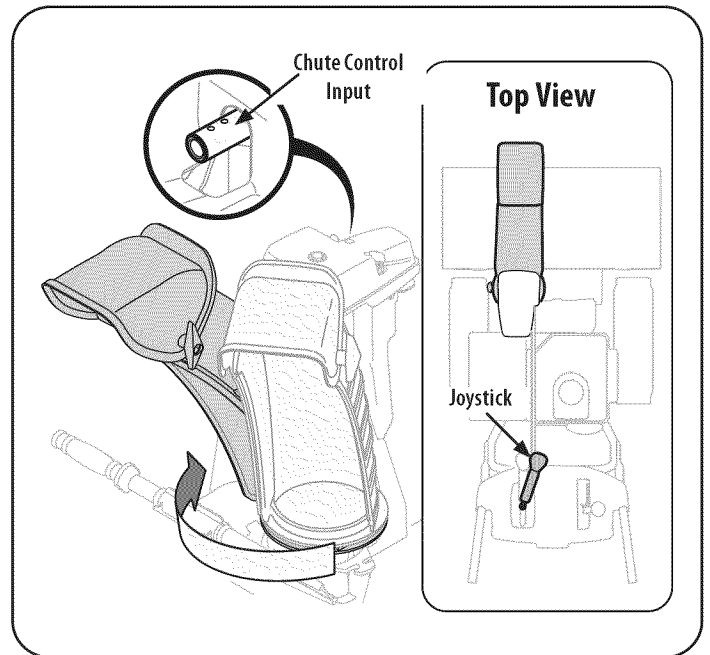
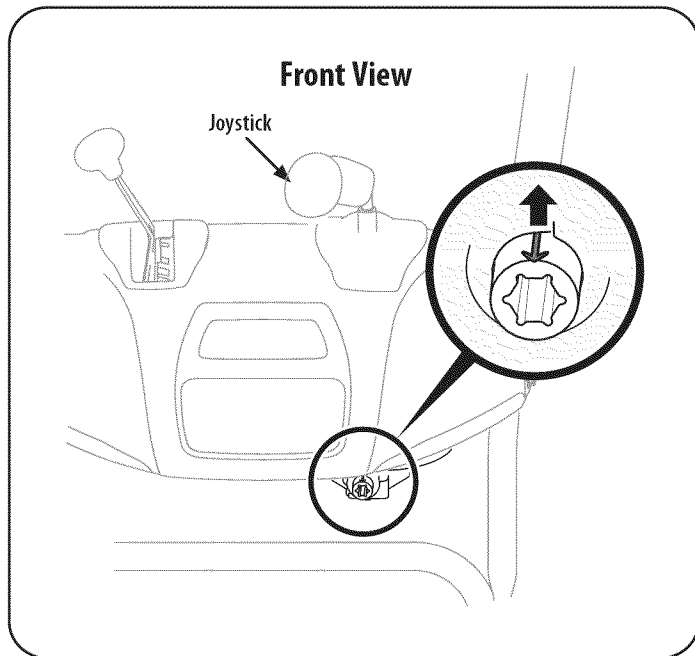

Figure 6
Figure 7
5. Squeeze the trigger on the handle panel joystick and rotate the chute by hand to face forward. The holes in the chute control input will be facing up. See Figure 6.
6. Rotate the joystick to the one o'clock position so the silver indicator arrow on the input shaft below the control panel points upward. See Figure 7.
NOTE: The joystick will be angled slightly to the right. See Figure 6 & Figure 7.